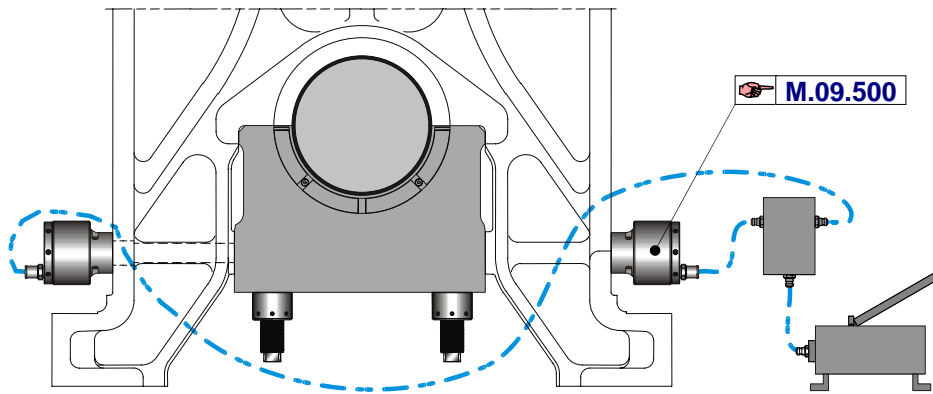

Fig. 1 Install the hydraulic tightening tool (유압 체결 공구의 설치)
1. Install the hydraulic tool set on two nuts of side studs as shown in fig 1.